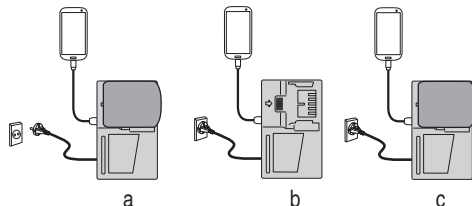

Fig. 10
- Charging a USB device by battery (Fig. 10-a)
- Charging a USB device from a electrical outlet (Fig. 10-b)
- Charging a USB device and battery from a electrical outlet (Fig. 10-c)